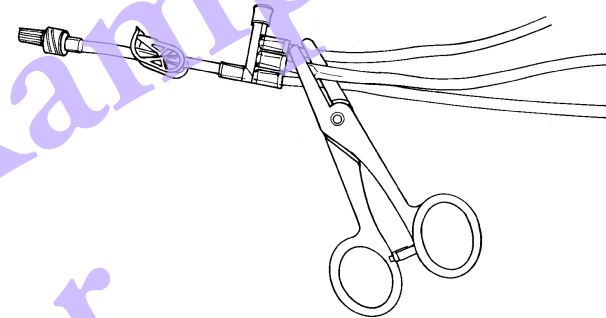

Figure 5-4: Proper placement of hemostat for BMP Prime
- 4 Place a hemostat on the AC line (the middle, clear tubing on the access lines) at the access manifold (see Figure 5-4).